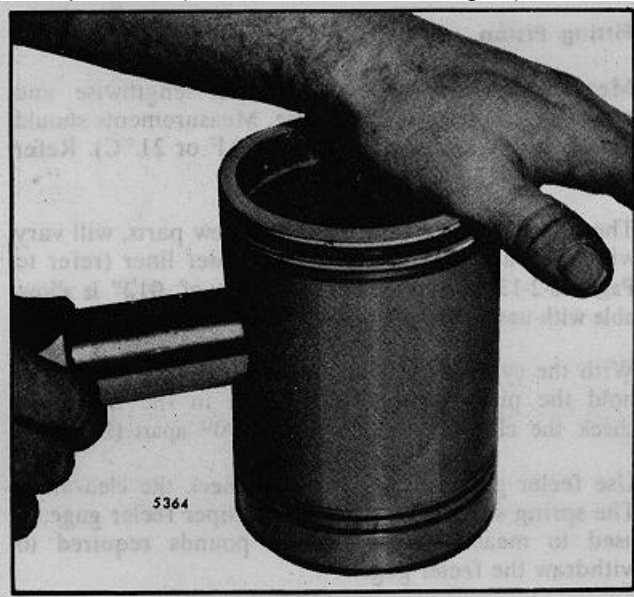

Fig. 7. Installing Piston Pin Assemble Piston
4. Lubricate the piston pin with clean engine oil and install it as shown in Fig. 7.